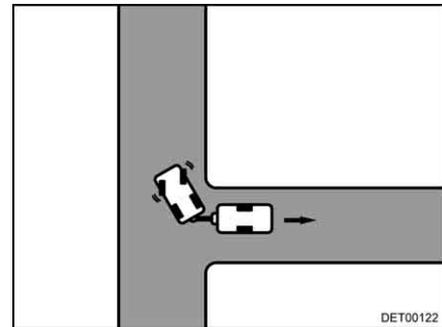

Fig. 20 Steer to the right
- Steer to the right and reverse with caution (Fig. 20).